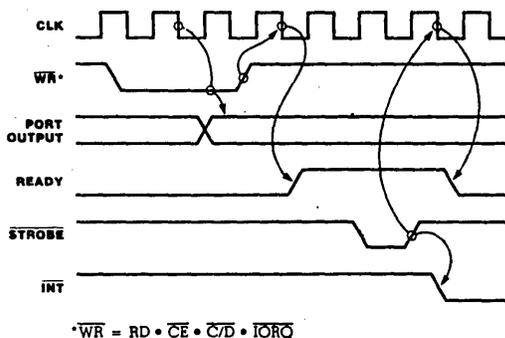

Figure 14. Mode 0 Output Timing
**Output Mode (Mode 0).** An output cycle (Figure 14) is always started by the execution of an output instruction by the CPU. The  $\overline{WR}^*$  pulse from the CPU latches the data from the CPU data bus into the selected port's output register. The  $\overline{WR}^*$  pulse sets the Ready flag after a Low-going edge of CLK, indicating data is available. Ready stays active until the positive edge of the  $\overline{strobe}$  line is received, indicating that data was taken by the peripheral. The positive edge of the strobe pulse generates an  $\overline{INT}$  if the interrupt enable flip-flop has been set and if this device has the highest priority.